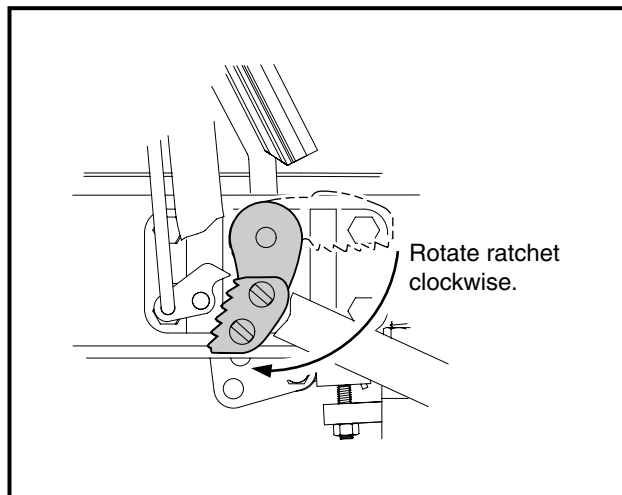

Figure 5-7 Ratchet Installation
8. Depress the brake pedal slightly, and with the park brake ratchet oriented so that the tip of the ratchet is pointed toward the rear of vehicle, slide the ratchet onto the pivot rod (do not slide the ratchet onto the pivot rod splines). Release the brake pedal and allow the ratchet to rotate until its tip is pointed downward (**Figure 5-7, Page 5-10**). The ratchet should now rotate freely on the rod.
9. Depress the brake pedal slightly, and with the park brake ratchet oriented so that the tip of the ratchet is pointed toward the rear of vehicle, slide the ratchet onto the pivot rod (do not slide the ratchet onto the pivot rod splines). Release the brake pedal and allow the ratchet to rotate until its tip is pointed downward (**Figure 5-7, Page 5-10**). The ratchet should now rotate freely on the rod.
8. Depress the brake pedal slightly, and with the park brake ratchet oriented so that the tip of the ratchet is pointed toward the rear of the vehicle, slide the ratchet onto the pivot rod (do not slide the ratchet onto the pivot rod splines). Release the brake pedal and allow the ratchet to rotate until its tip is pointed downward (**Figure 5-7, Page 5-10**). The ratchet should now rotate freely on the rod.